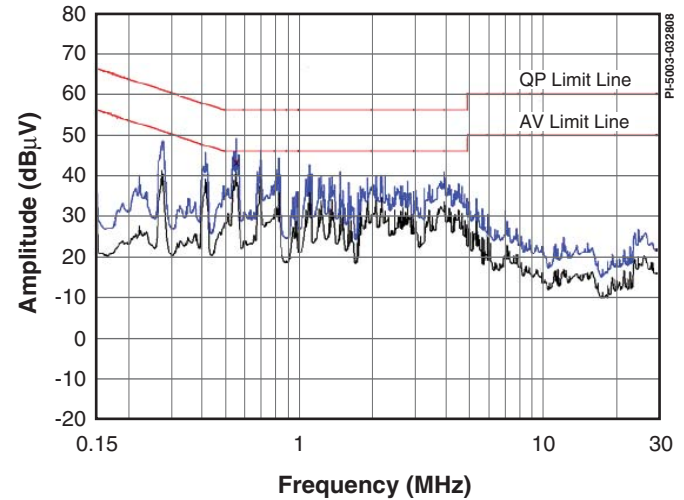

Figure 3. Conducted EMI Scan to EN55022B Limits. Measurements Made at 230 VAC With Output RTN Connected to Earth Ground Representing Worst Case Conditions.
- Meets CISPR-22/EN55022 B conducted EMI limits with >10 dB $\mu$ V margin (see Figure 3)
The AC input is filtered by diode D2 (half-wave rectification) and smoothed by C1 and C6. Inductor L1 forms a pi filter with C1 and C6 to provide differential filtering. The integrated frequency jitter feature of U1 allows such simple EMI filtering to meet compliance with EN55022B, (see Figure 3).